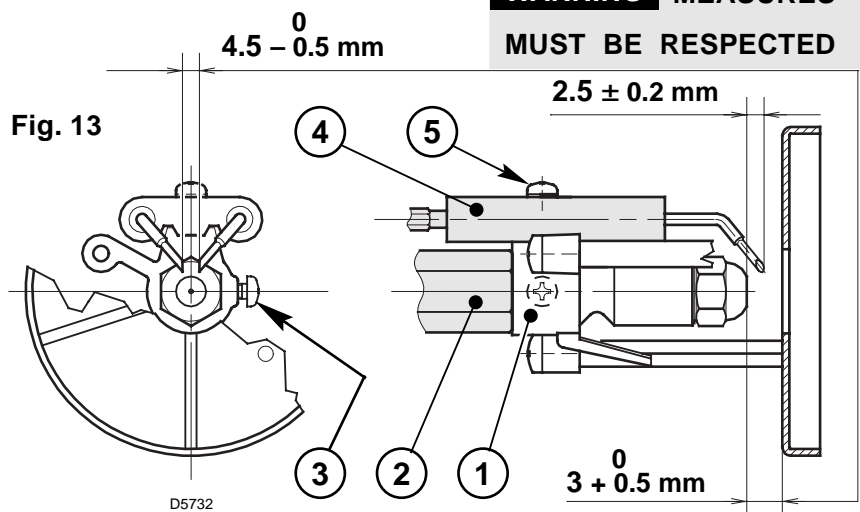

Fig. 13
- Hook the burner to the flange (1), by removing the blast tube (2) after loosening the fixing screws (3).
- Remove the small cables (4) from the electrodes and the diffuser disc-holder assembly (5) from the nozzle-holder assembly after loosening its fixing screw (3, fig. 13, page 7).
- **Screw the nozzle (6) correctly and tighten it as shown in the figure.**
- Remove nozzle-holder assembly (1) after loosening screws (2) and nut (3), remove the small cables (4) from the control box, the photoresistance (6) and the socket (10).
- Withdraw the small cables from the electrodes, remove the diffuser disc-holder assembly (11) from the nozzle-holder assembly (1) after loosening screw (3, fig. 13).
- **Screw the nozzle (12) correctly and tighten it as shown in figure.**
4.3 ELECTRODES ADJUSTMENT (see fig. 13)
- Replace the nozzle (see fig. 11, page 6) and check the correct position of electrodes (fig. 13, page 7).